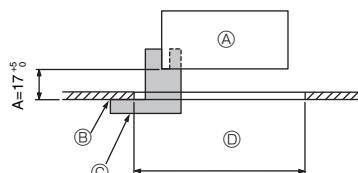

Fig. 9-2
9.2. Preparing to attach the grille (Fig. 9-2)
- With the gauge ② supplied with this kit, adjust and check the positioning of the main unit relative to the ceiling surface. If the main unit is not properly positioned relative to the ceiling surface, it may allow air leaks or cause condensation to collect.